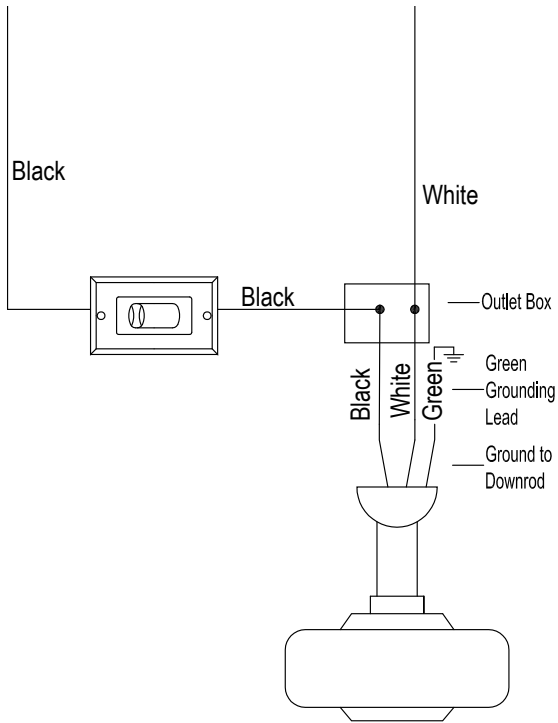

Fig. 7
Step 5. Turn the wire connecting nuts upward, and carefully push the wiring into the outlet box. (Fig. 7)